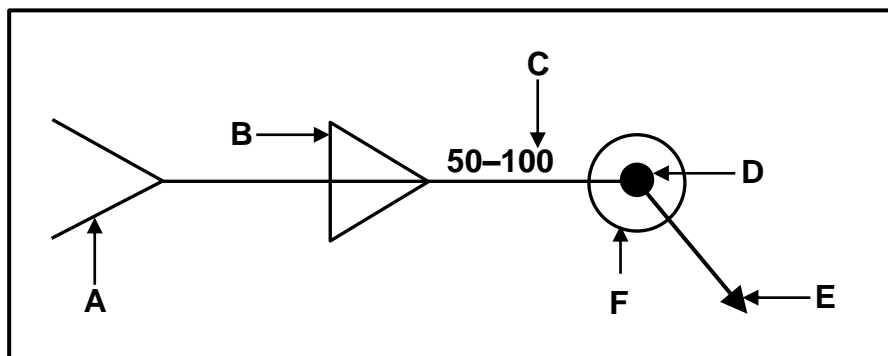

FIGURE 5.5
- 5.5 Identify elements **A–F** on the welding symbol shown in FIGURE 5.5.